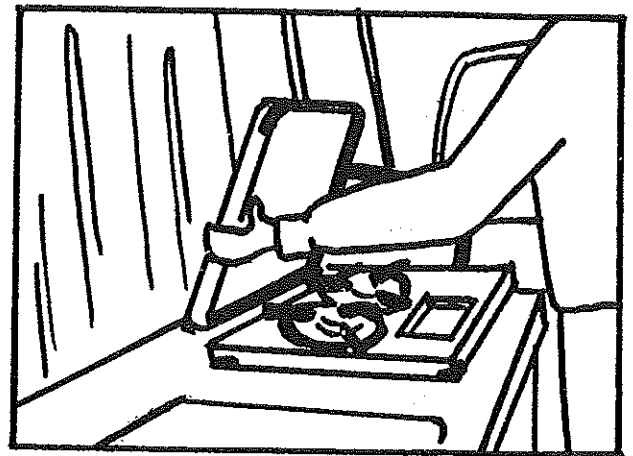

FIGURE 31
7. Turn L.P. burners to off. Pull the stove cover down and secure for travel with the catch. See Figure 31.